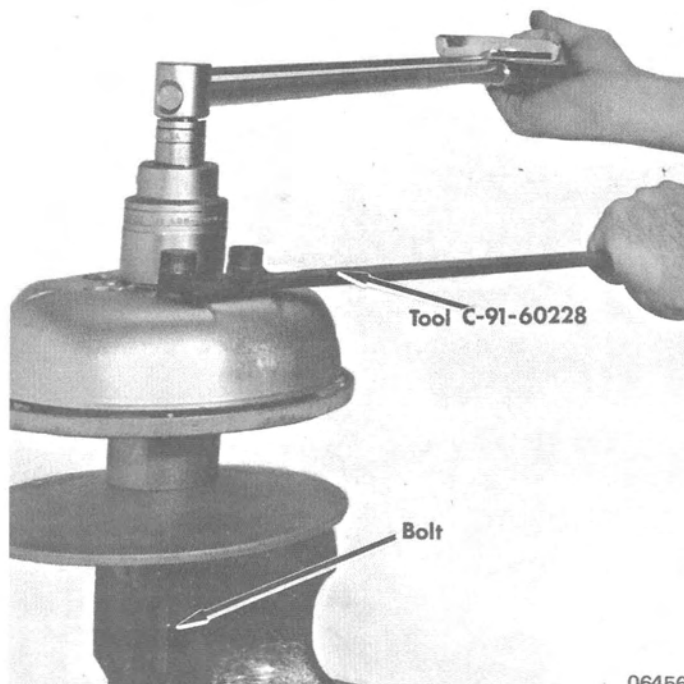

Figure 12. Placing Sheave on Bolt
10. Place sheave on a suitable shaft or 8" bolt clamped in vise. (Figure 12) Align scribe mark on ramp plate with scribe mark on spider base. Install tab washer and ramp plate retaining nut. Using C-91-60228 tool, hold drive sheave and torque retaining nut 140-160 ft. lbs. Bend tab washer tab against nut.